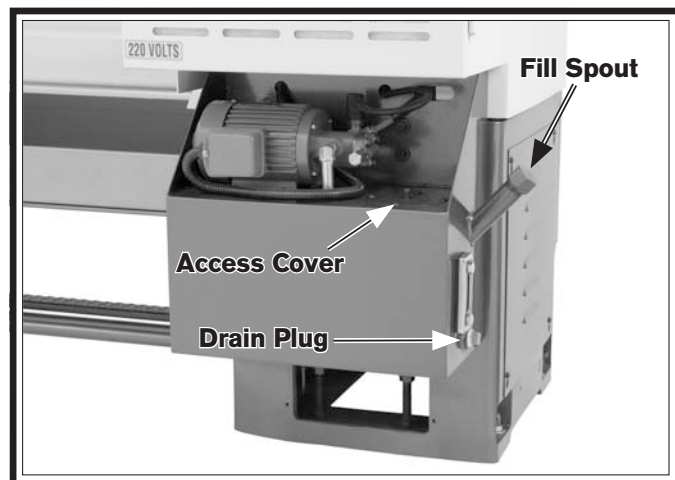

Figure 110. Headstock oil tank component locations.
2. Remove the cap from the fill spout shown in **Figure 110**.